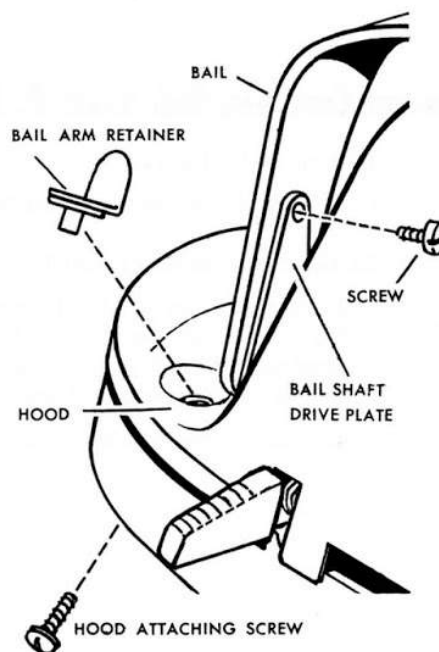

FIG. 2
- a. Turn polisher over and remove (4) screws from bottom of casting, and (2) bail arm retainers from top rear of hood. Turn polisher over, place handle in upright position and remove screw from bail arm and bail shaft drive plate as shown in FIG. 2.
- c. Grasp hood and raise vertically over bail shaft drive plate. See FIG. 2.